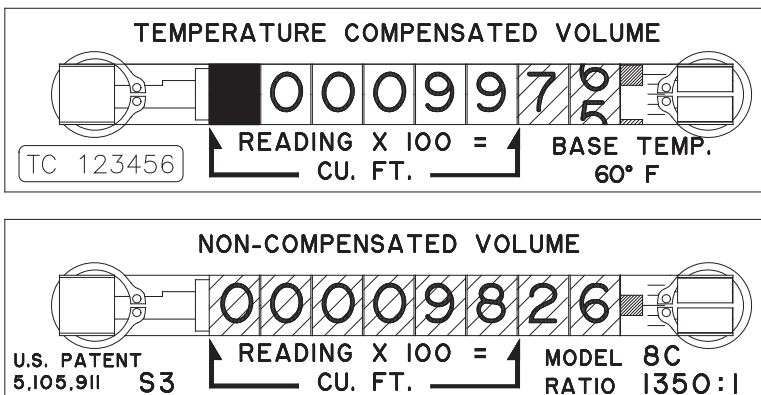

Figure 13: A reading of 9756 would be the number recorded for TC unit operational check.
3. Observe the Temperature Compensated volume odometer. When the odometer stops turning after an intermittent compensating cycle, record the last 3-digit reading (Ci) indicated on the odometer, PLUS the value indicated by the graduated marks on the test wheel. Read as a whole number. (See the Sample Counter Reading in Figure 13 below.)